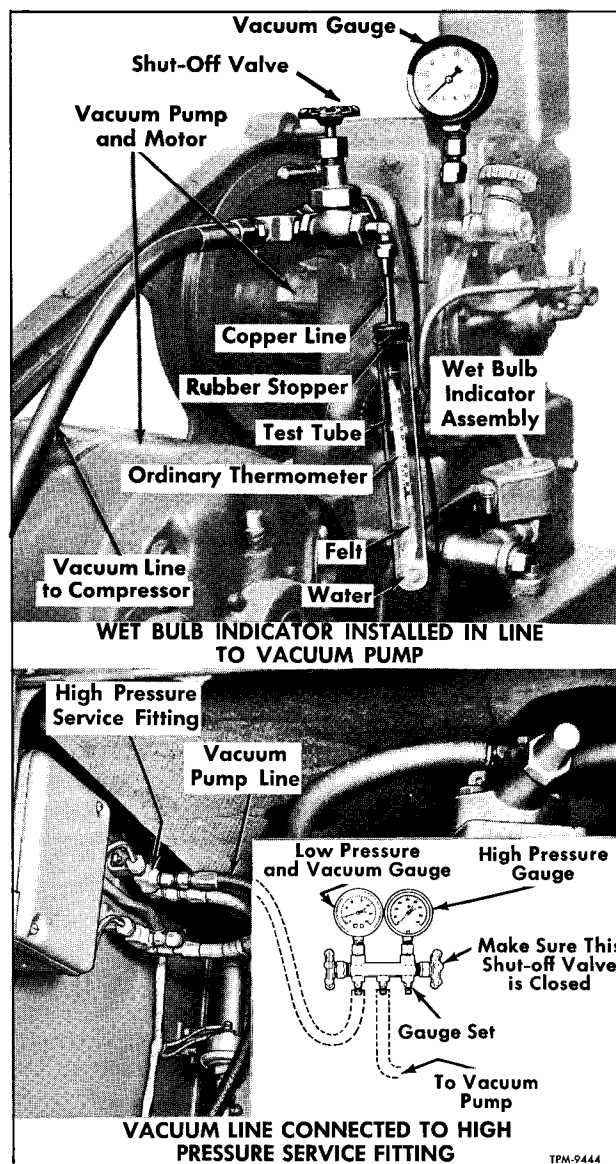

Figure 126—Evacuating the System
NOTE: Figure 126 shows vacuum line (from gauge set) connected to the high pressure service fitting on models 5301 and 5302. Figure 124 will identify fittings on other models.
2. Tee a branch line with a wet bulb indicator into vacuum pump line as shown in upper view of figure 126.